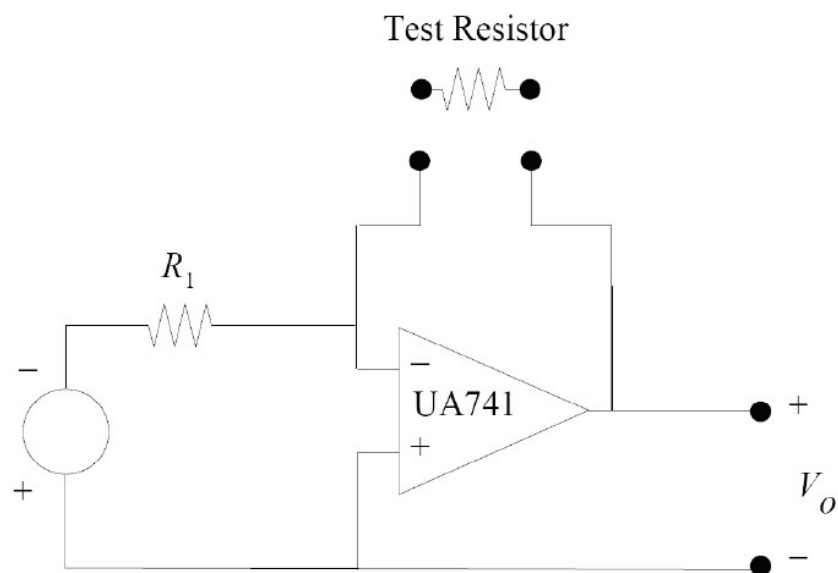

Fig. 1
2. The operational amplifier, or op-amp, circuit shown in Figure 1 is proposed as an ohmmeter to measure unknown resistances. Find a value for  $R_1$  so that the voltmeter connected to the output will read the resistance in kilo-ohms (i.e. 1 V = 1 k $\Omega$ , 2 V = 2 k $\Omega$ ) when the voltage source is 5V.
**Important Note:** Please remember to turn off all power supplies to your circuit before making modifications to your circuits, such as when you move the test resistor in Figure 1 in and out of the circuit, since that eliminates the critical feedback path. Failure to turn off all power supplies will probably damage your op-amp in some way resulting in unpredictable behavior of your circuit.
- B1.** Create the circuit shown in Figure 1 with  $R_1$  equal to the value you calculated in the prelab and use a power supply voltages of  $\pm 15$  volts for  $V_{CC+}$  and  $V_{CC-}$ .